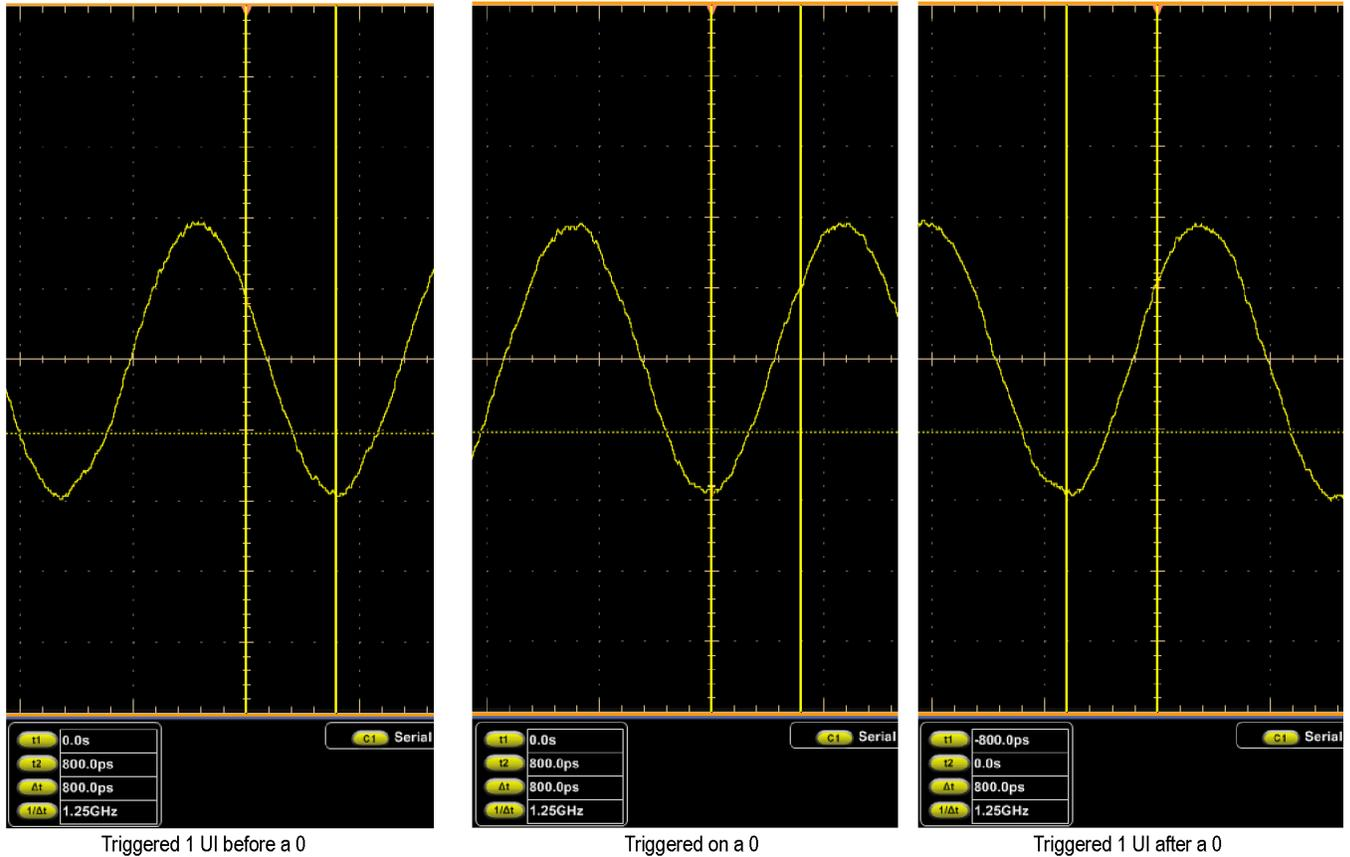

Figure 42: Isolated 0 triggering
- l. Center Cursor 2 in the low of the waveform just to the right of the center graticule line (See Figure 42 on page 323.)
- q. Center the Cursor 1 in the low of the waveform nearest the center graticule line. (See Figure 42 on page 323.)
- v. Center Cursor 1 in the low of the waveform just to the left of the center graticule line. (See Figure 42 on page 323.)
- w. Verify that the instrument triggers one Unit Interval (UI) after the 0 in the input signal. The absolute value of the T2 cursor readout must be  $\leq 325$  ps. Enter pass or fail in the test record.